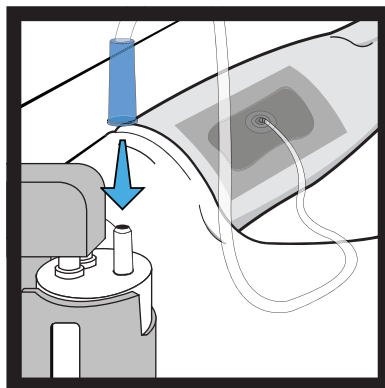

Figure 13
12. Connect the distal end of the SpeedConnect™ tubing with the blue tapered connector to the open port of the Canister (**Figure 13**). Gently twist and push the connector on just enough to secure and seal it.